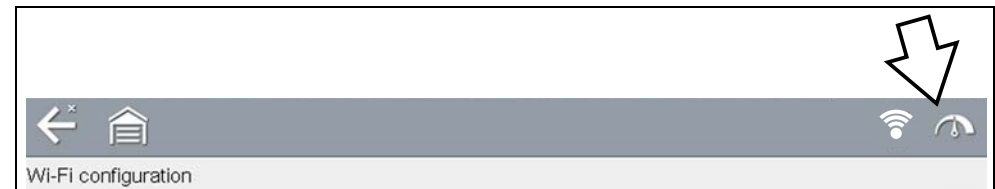

Figure 13-4 Wi-Fi Test Icon
3. From the Wi-Fi configuration screen, select the **Wi-Fi Test** icon to open the network connection test screen (Figure 13-4).